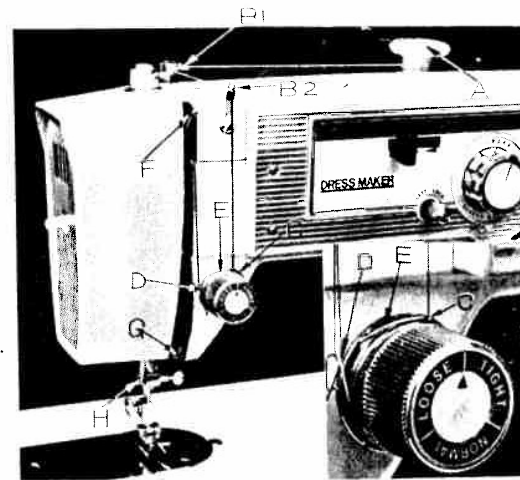

Fig 10
THREADING THE MACHINE (See Fig. 10 & 11)
- 1) Turn balance wheel toward you to raise take-up lever. (F, Fig. 10) to its highest point.
- 3) Lead thread through arm thread guide B1 to B2, Fig. 10.